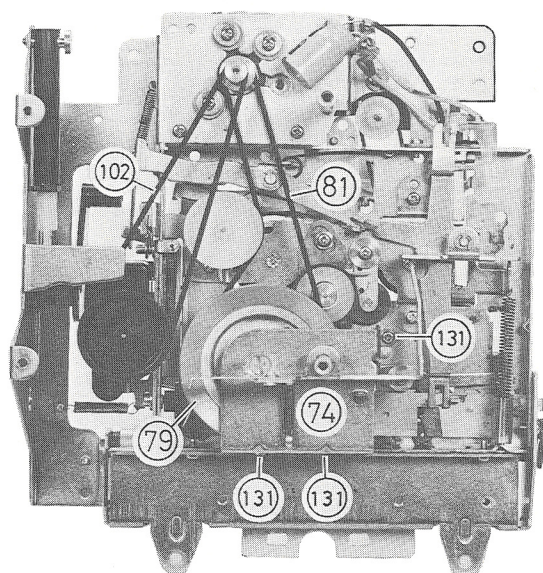

Fig. 22
#### G. Capstan Belt (81) (Refer to Fig. 22)
1. Remove the flywheel holder (74) by removing 3 screws (131).
2. Detouch the shut-off belt (102).
#### H. Flywheel (79) (Refer to Fig. 22)